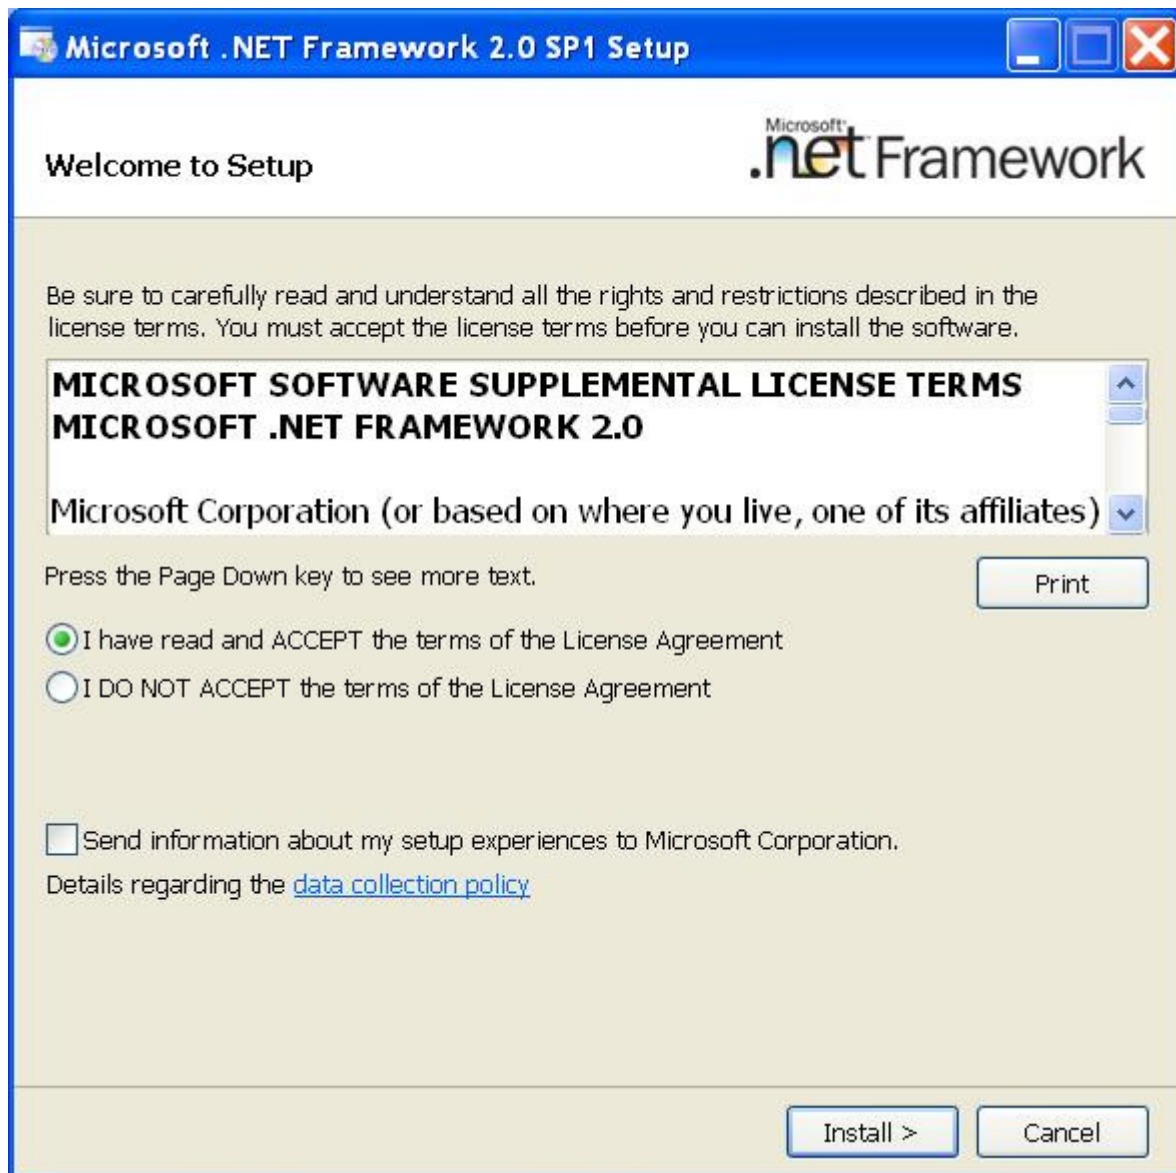

Figure 11
2. Select Read and accept the terms of the license agreement, and click "Install", as figure 11.